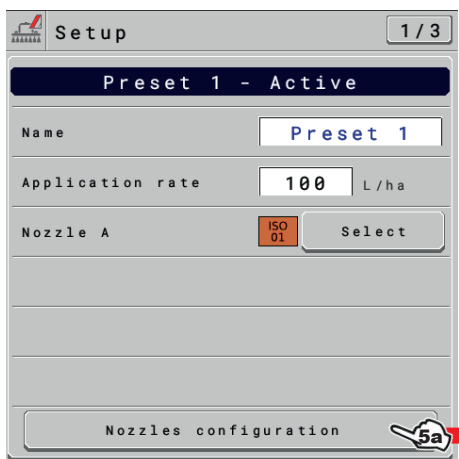

Fig. 82
- VALVES WITH GEARMOTOR (SINGLE BOOM) OR SINGLE SELETRON, Fig. 82.